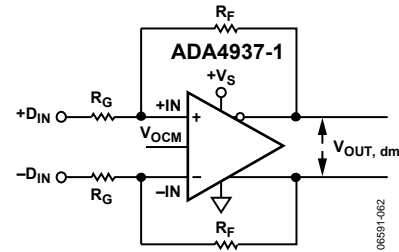

Figure 48. ADA4937-1 Configured for Balanced (Differential) Inputs
The effective input impedance of a circuit depends on whether the amplifier is being driven by a single-ended or differential signal source. For balanced differential input signals, as shown in Figure 48, the input impedance ( $R_{IN, dm}$ ) between the inputs (+DIN and -DIN) is simply  $R_{IN, dm} = 2 \times R_G$ .
**Table 9. Differential Ground-Referenced Input, DC-Coupled; See Figure 48**